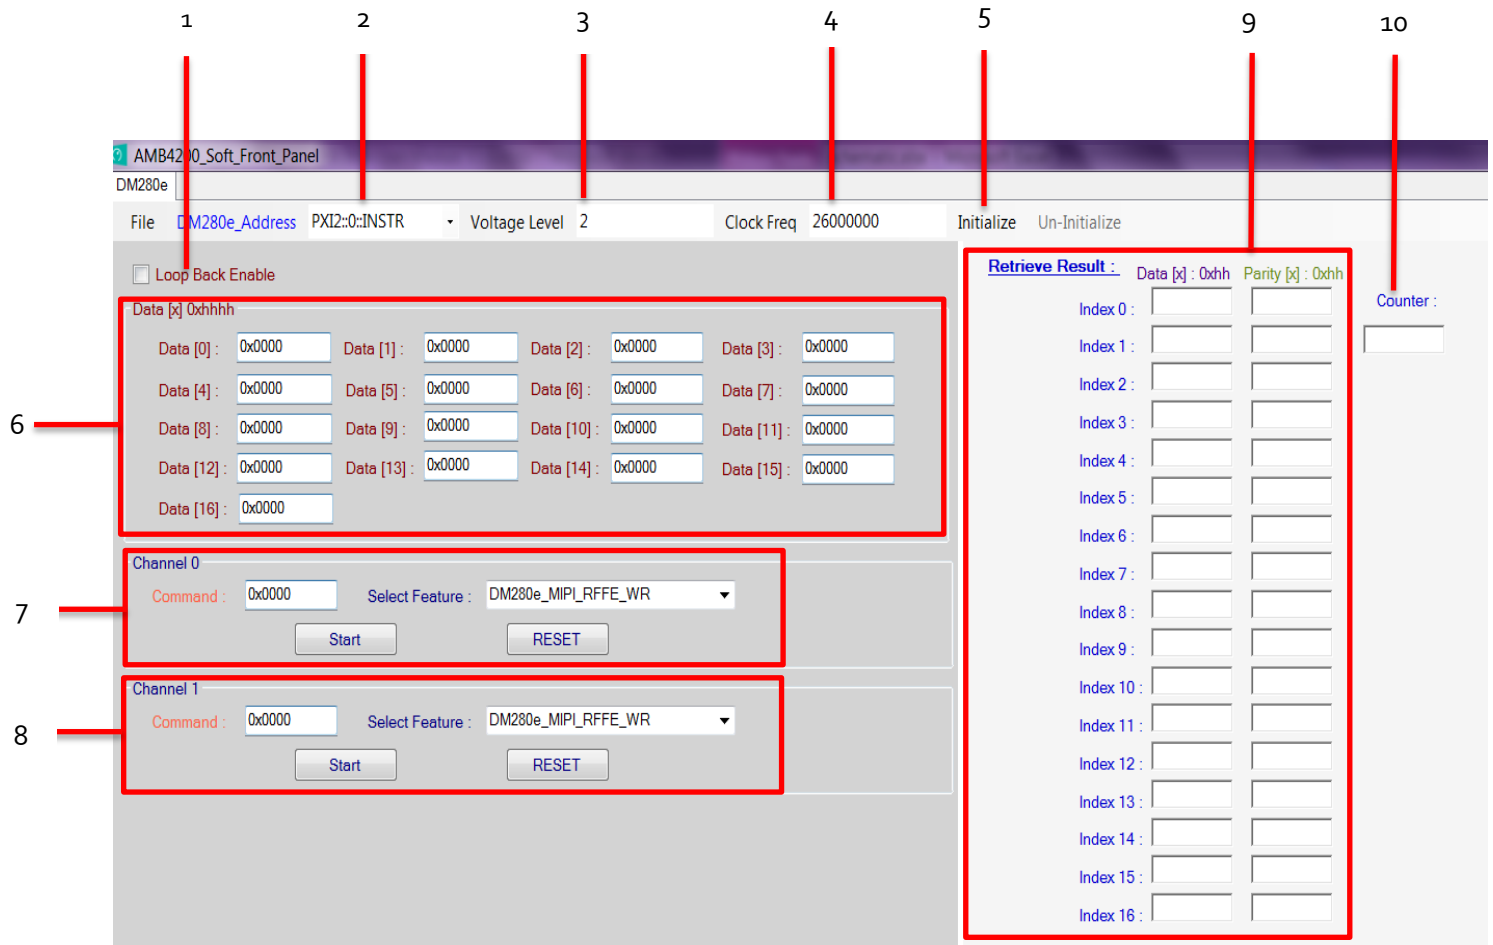

Figure 2: DM280e Soft Front Panel
7. Set the data that should be written to the module at part (6) (refer figure 2).